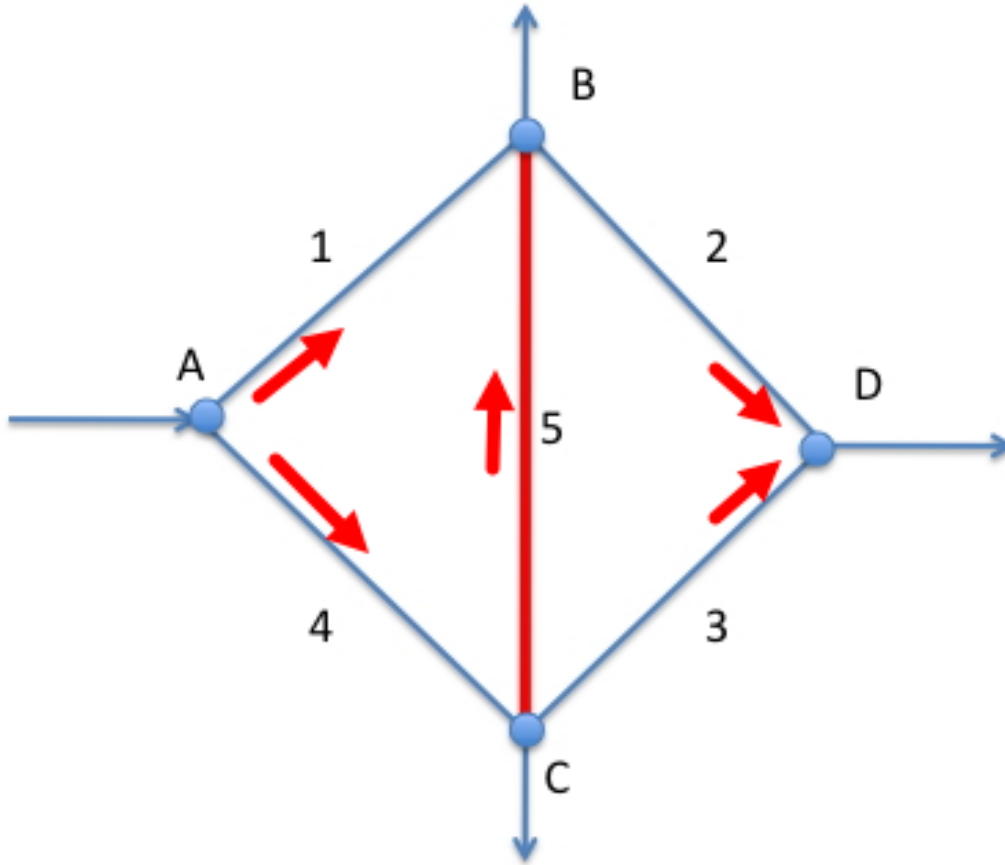

Figure 5: Pipe network
Figure 5 is a pipe network with the following properties:
Table 1: Network properties for Figure 5
10. Referring to Figure 5, the discharge in pipe 5 is closest to
- (A) 0.00 cfs, from Node B to Node C
- (B) 0.15 cfs, from Node C to Node B
- (C) 0.66 cfs, from Node C to Node B
- (D) 0.66 cfs, from Node B to Node C
11. Referring to Figure 5, if the demands at all nodes are those in Table 1, and pipe 2 is decreased to a diameter of 2/12, the discharge in pipe 5 is closest to
- (A) 0.00 cfs, from Node C to Node B
- (B) 0.15 cfs, from Node B to Node C
- (C) 0.30 cfs, from Node C to Node B
- (D) 0.60 cfs, from Node B to Node C
12. Referring to Figure 5, assuming the average friction factor is 0.018, the head loss, in feet, from Node A to Node C (when all pipes are the same diameter) is closest to
- (A) 12 feet
- (B) 25 feet
- (C) 50 feet
- (D) 75 feet
13. Referring to Figure 5, and Table 1 the flow distribution is:
- (A)  $[Q_1, Q_2, Q_3, Q_4, Q_5] = [0.30, 0.15, 0.15, 0.30, 0.00]$  CFS
- (B)  $[Q_1, Q_2, Q_3, Q_4, Q_5] = [0.30, 0.15, 0.15, 0.30, 0.30]$  CFS
- (C)  $[Q_1, Q_2, Q_3, Q_4, Q_5] = [0.30, 0.15, 0.15, 0.00, 0.50]$  CFS
- (D)  $[Q_1, Q_2, Q_3, Q_4, Q_5] = [0.30, -0.15, -0.15, 0.30, -0.60]$  CFS
- (A) A pipe, a node, and a pump
- (B) A pipe, a node, and a valve
- (C) A pipe, a tank, and a pump
- (D) A pipe, a node, and a reservoir